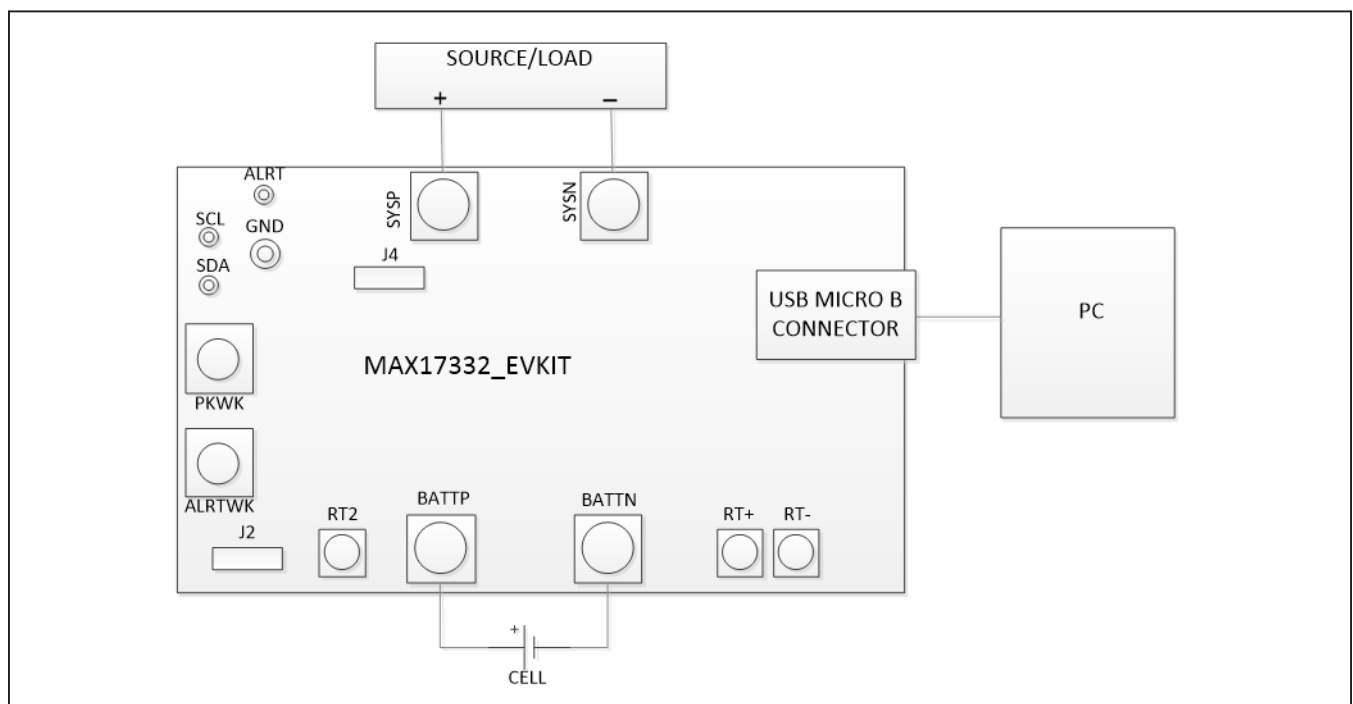

Figure 1. MAX17332 Board Connections
- 5) Make connections to the EV kit board based on Figure 1. The cell connects between the BATTN/BATTP pads. The load or charger circuit can be connected between the SYSN and SYSP pads at this time as well.